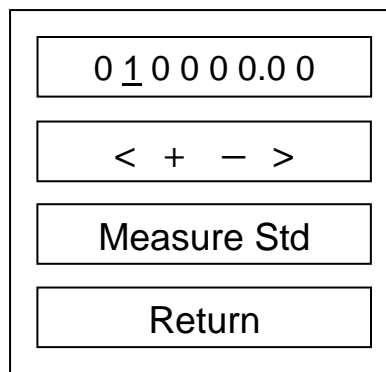

Figure 4. **Standard setting** screen
- d. After the Blank is read, the screen will become one as shown in Fig. 4.